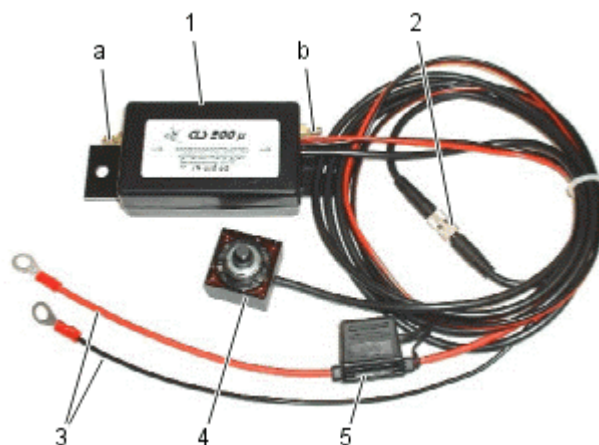

Figure 3 Electronic Control Box and Rotary Switch
5. Install the cable (grey with black plug) from the rotary switch (4, Figure 3) to the electronic control box and secure it with cable ties, cable clips or insulating tape.
6. Connect the cable from the rotary switch with that from the electronic control box. Note the polarity protection on the plug and socket and connect by pushing together until the dark grey enclosure (2, Figure 3) locks.